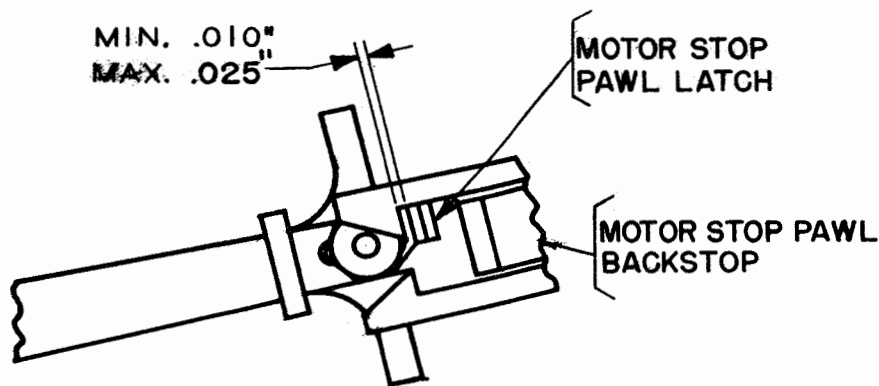

Figure 1
pawl latching surface should over-travel the rearmost surface of the motor-stop pawl latch minimum 0.010 inch, maximum 0.025 inch when (1) the platen is in the FIGS position, (2) the motor-stop combination is set up, (3) the main-shaft is rotated slowly until the motor-stop function-lever is completely selected, and (4) the armature is in its operated position. (See Figure 1.)
To Adjust: Position the motor-stop pawl backstop. (See Figure 1.)